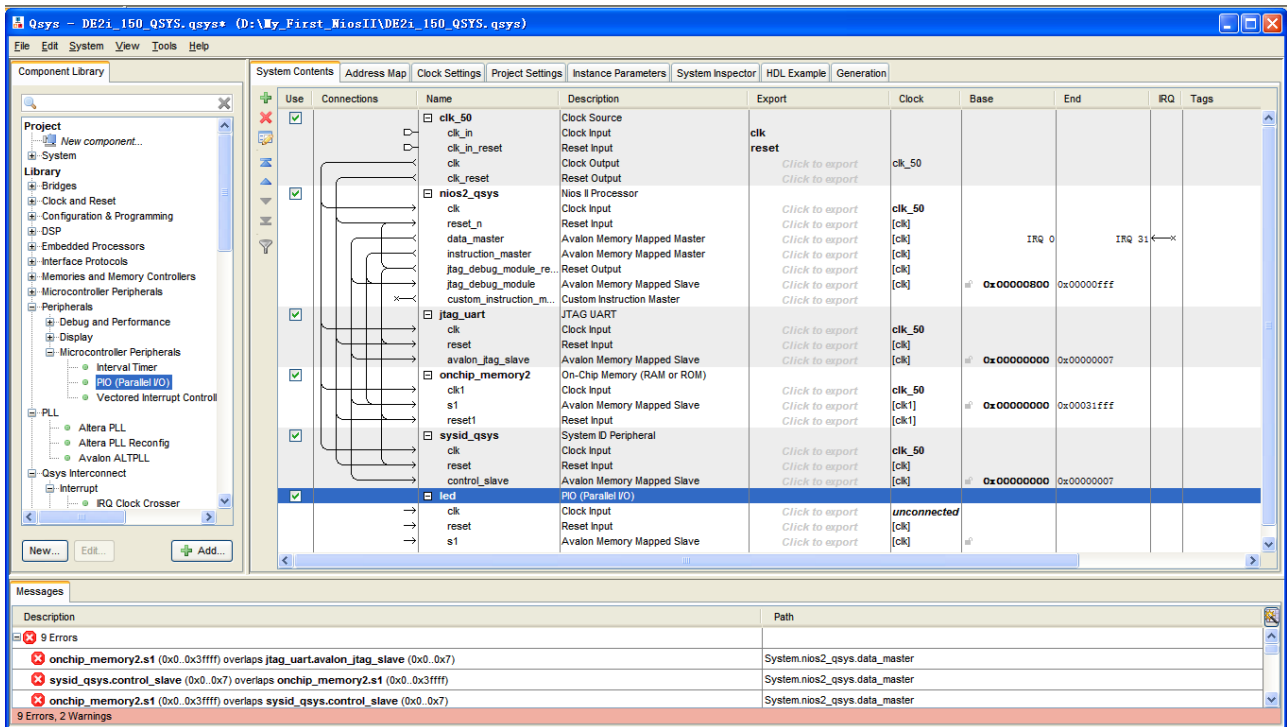

Figure 1-40 Rename PIO
25. Rename **pio\_0** to **led** as shown in Figure 1-40.